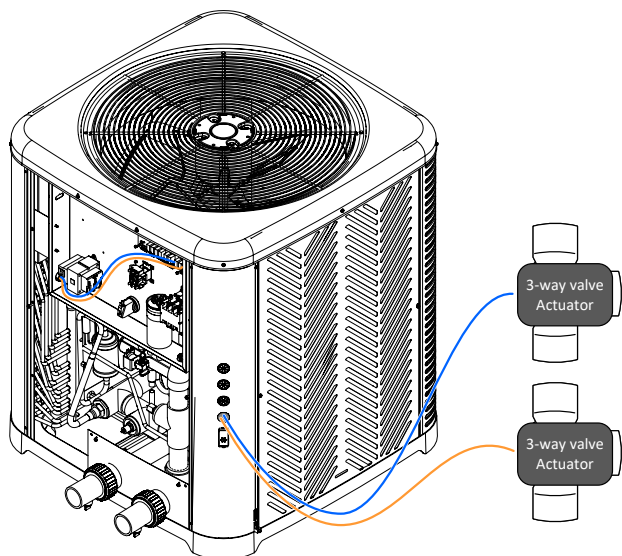

Figure 133. Wiring Valve Actuators
1. Follow the general instructions for wiring external devices to connect the valve actuator(s) harness from the valves to the control board of the heater. See **Figure 133**.